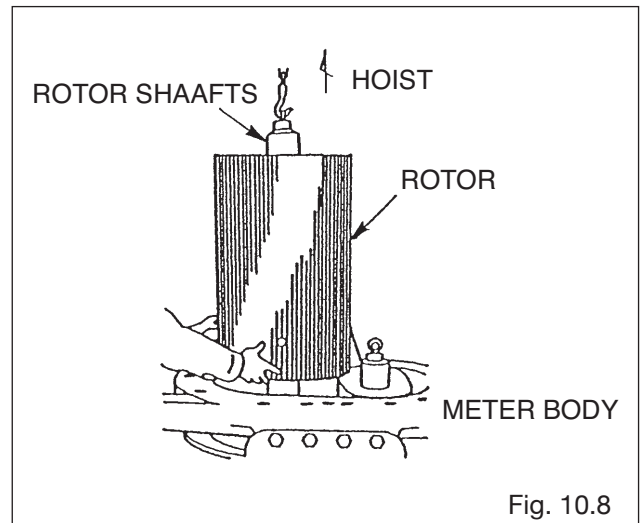

Fig. 10.8
- (8) Remove oval rotors (201). Install eyebolts (M10) into the end face of rotor shafts (202 and 203) and, using a wheel crane or similar equipment, carefully lift them out (Fig. 10.8).